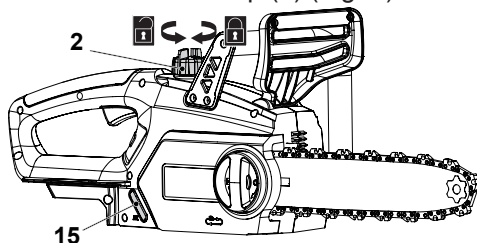

Fig.9
1. Place the product on a stable, level surface with the oil tank cap (2) facing upward. We recommend laying a non-flammable sheet under the product.
2. Unscrew and remove the oil tank cap (2) (Fig. 9).